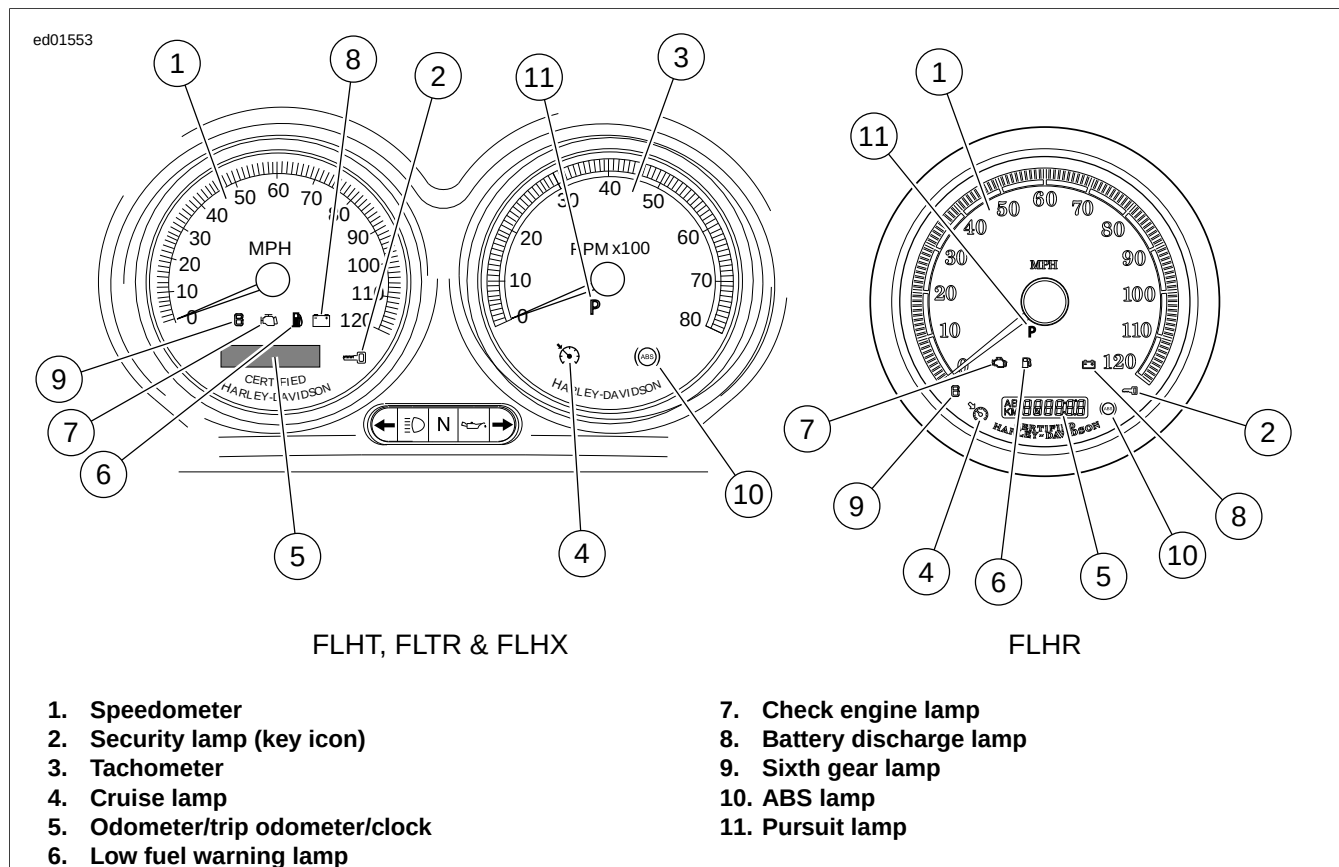

Figure 6-6. Instrument
- For a quick check of speedometer function, a "WOW" test can be performed. See Figure 6-6. While pressing the Trip